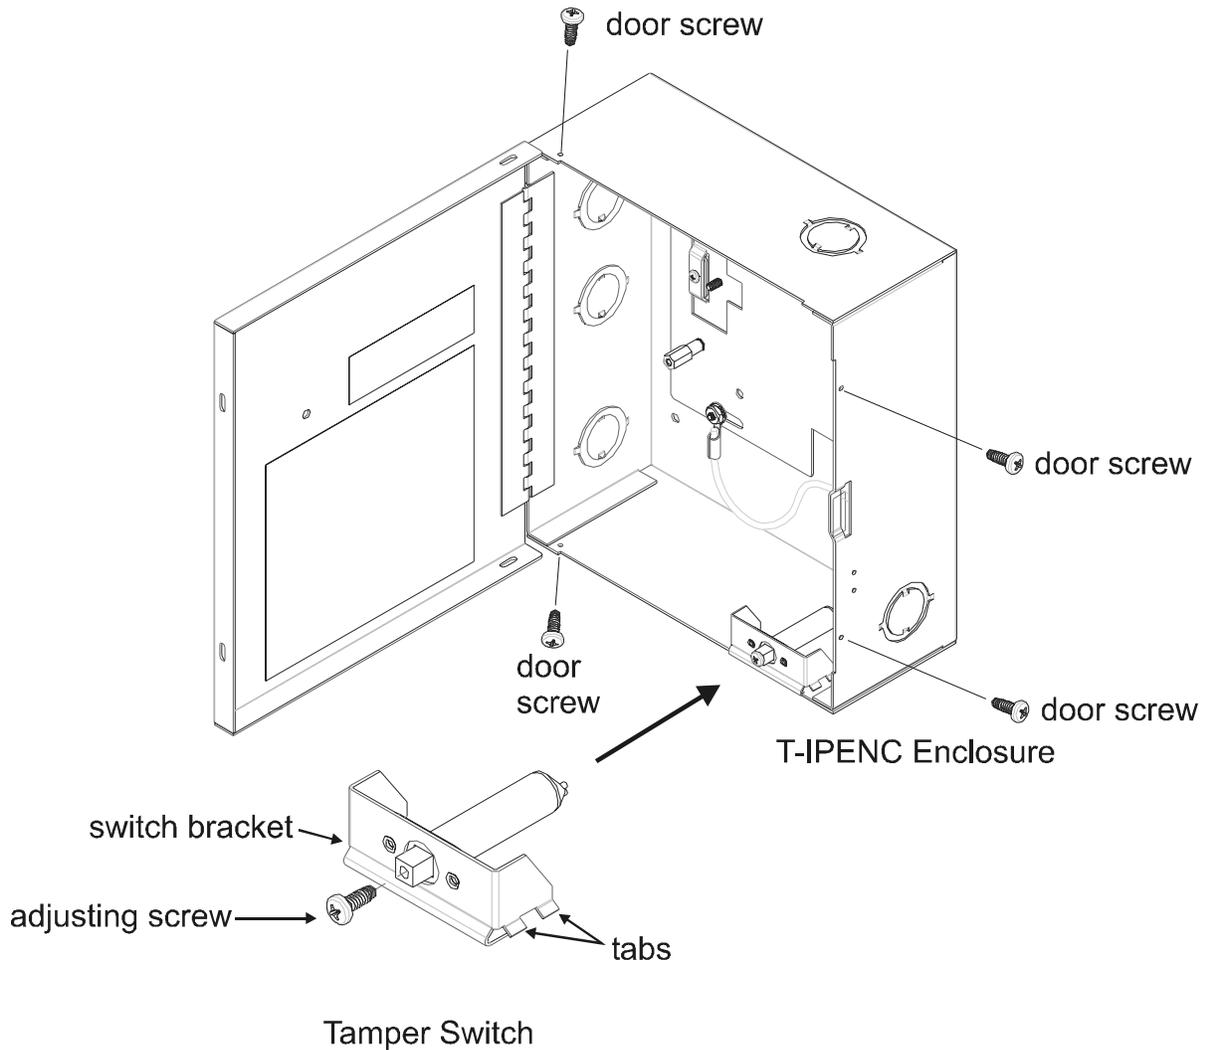

Figure 2
1. Position the supplied Tamper Switch near the lower right corner of the T-IPENC enclosure as illustrated in Figure 2.
5. After completing wiring and programming of the mIP, close the door and secure it with the four supplied screws in the locations indicated in Figure 2.